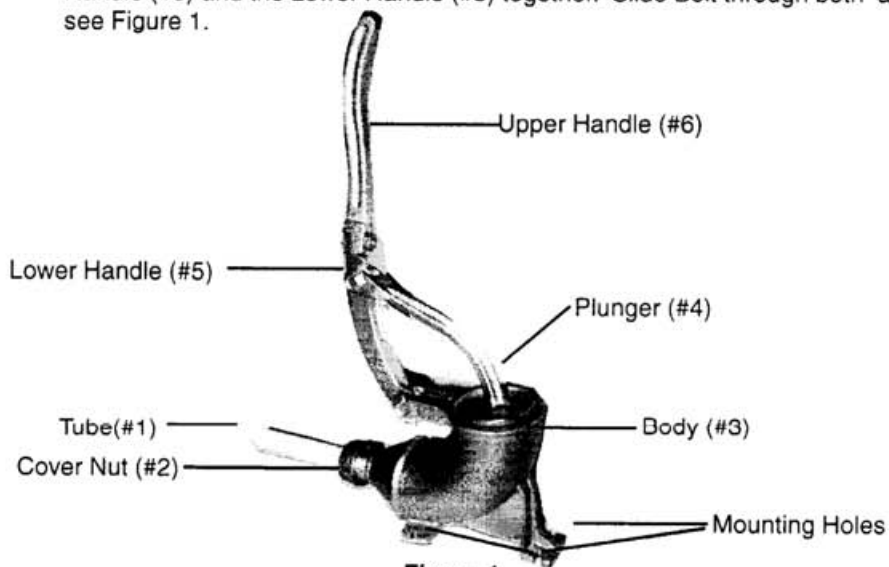

Figure 1
Step 2) Attach the Upper Handle (#6) to the Lower Handle (#5). Fit the "L-shaped" end of the Upper Handle (#6) and the Lower Handle (#5) together. Slide Bolt through both and tighten on Nut-see Figure 1.
Step 2) It is recommended that the Sausage Stuffer be permanently anchored to a work surface. Use four (4) 1/4" sized bolts and nuts (not included) to secure the Sausage Stuffer through the mounting holes located on the base-see Figure 1.